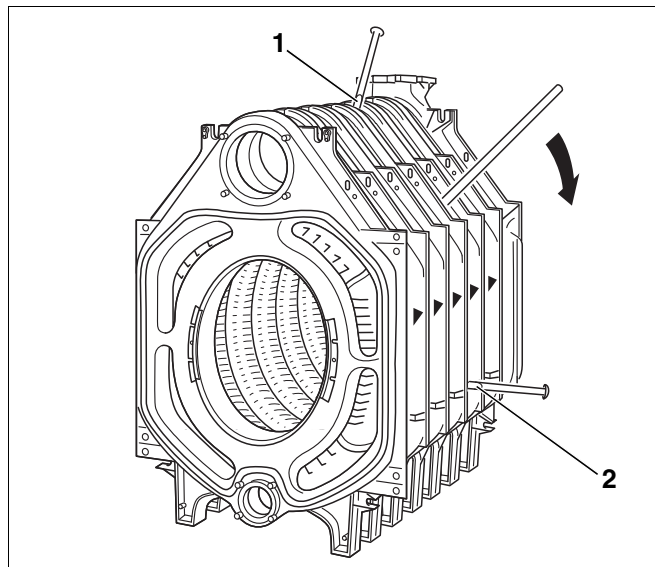

Fig. 27 Separate the boiler block
- ▶ Separate the boiler at the leak location by driving (knocking) in flat wedges or chisels between the sections at the points provided at the top and bottom (Fig. 27, [1] and [2] between the sections).